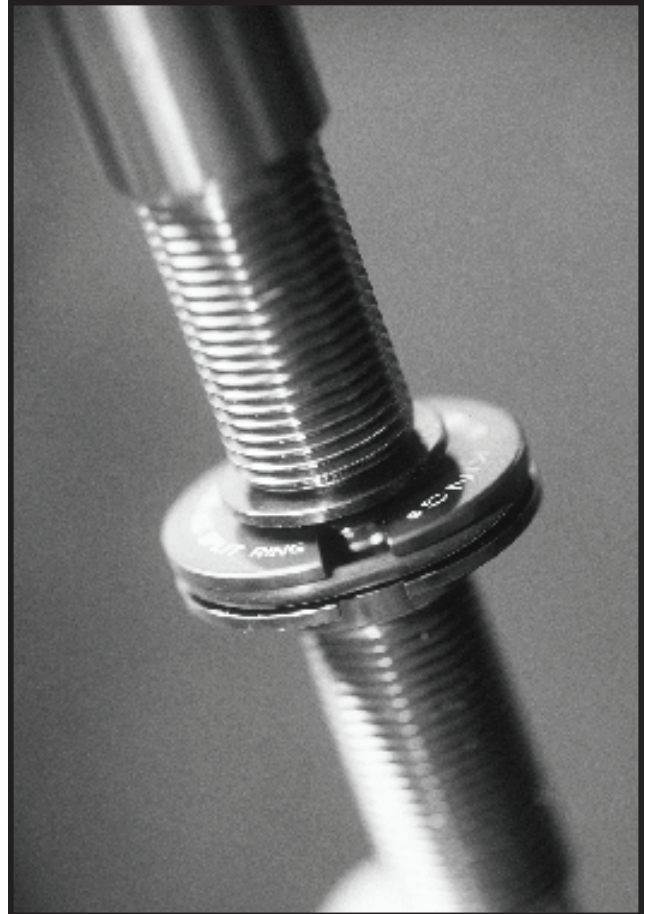

Figure 17 - function of the split ring
4. As you screw it together, you will force the cone washer into the split ring. The split ring will begin to expand; continue screwing until the cone has disappeared completely into the split ring. (See figure 17.) ***Use the split ring in the orientation seen in figure 17.** With the cone washer clamping the split ring, fully expanded, against the flange of the extension shaft the tool is ready to drive a bearing. When driving bearings, the split ring should only be used in this fully expanded and clamped position.